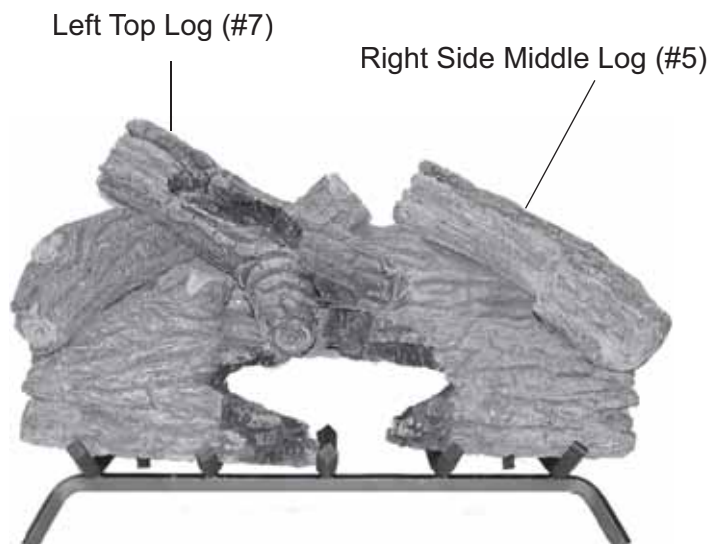

Figure 24 - Installing Right Side Middle Log (#5) and Left Top Log (#7)
7. Install left top log #7 as shown. *See Figure 24.*